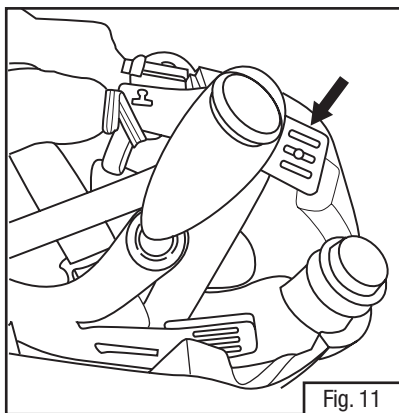

Fig. 11
- Release the suspension from the headgear by pulling the height adjustment slot off the peg at each of the four attachment points. Fig. 11 points to one of the attachment slots. There are 2 in the rear and 2 in the front.
- Install new suspension by snapping each of the four height adjustment slots onto the four pegs on the headgear shell. **NOTE:** See *Donning and Fitting* section of these *User Instructions* for information on adjusting the suspension for a comfortable fit (Fig. 11).